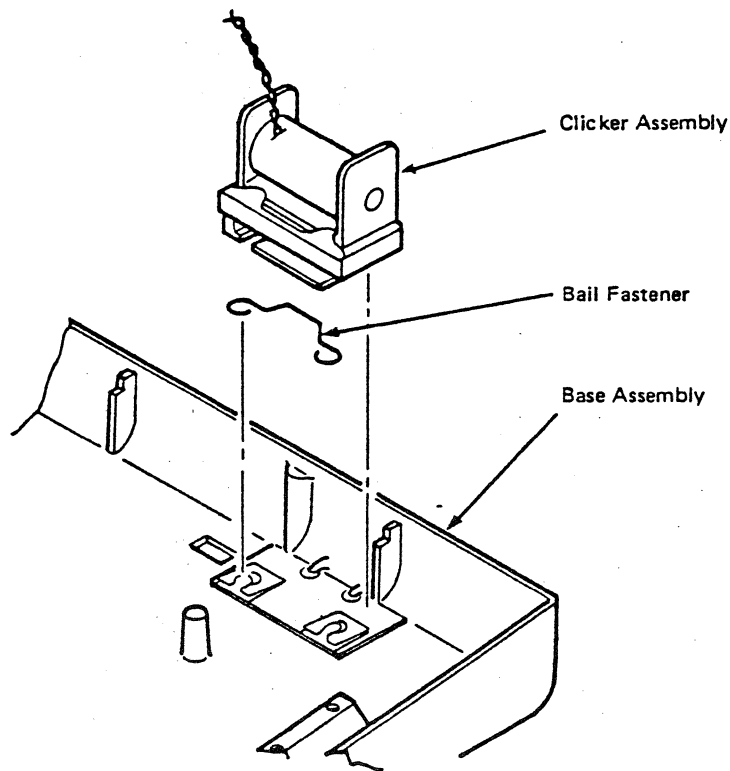

Figure 4-5. Clicker Assembly Removal
2. Push the clicker-assembly bail fastener (shown in Figure 4-5), toward the rear of the Keyboard Element, then raise the fastener over the cast tab as you let it move forward slowly.